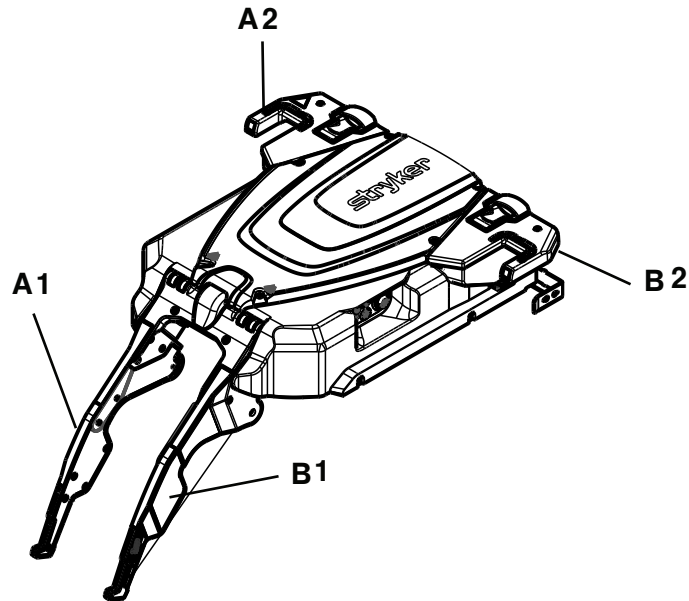

Figure 10 – Trolley hand positions
7. Using a 3/16" hex wrench, loosen (do not remove) the four socket head cap screws (two on each side) (D) that secure the dead stops to the transfer assembly.
- c. Installer 1, position hands at A1 and A2 (Figure 10).